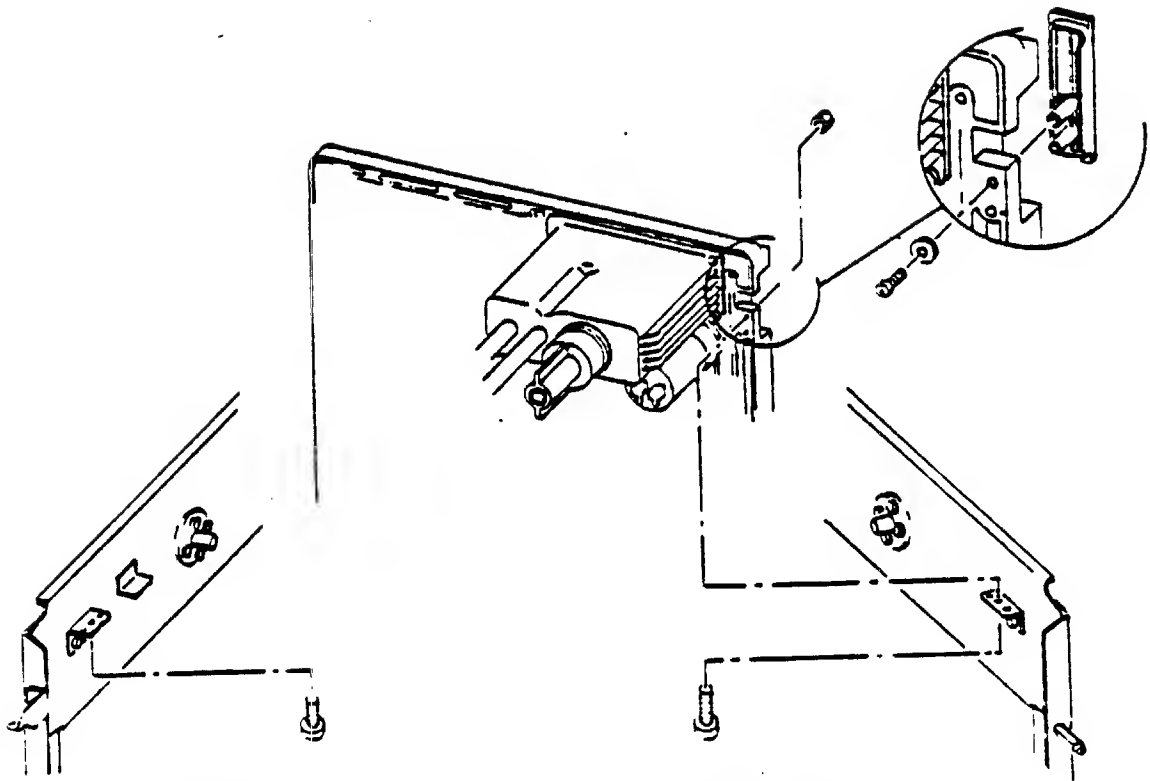

Figure 3-13. Tape Deck Shipping Screws
14. From the underside of the tape deck, remove the two slotted hex head screws (one on left side and one on right side) passing through the angle brackets into the tape deck. See figure 3-13.
19. Remove the hinge cover kit, P/N 77023062, taped to the manual packet in the bottom of the cabinet and attach the hinge block cover to the top of the tape deck with two #6-20 x .75 inch self-tapping screws and flat washers. See figure 3-13.